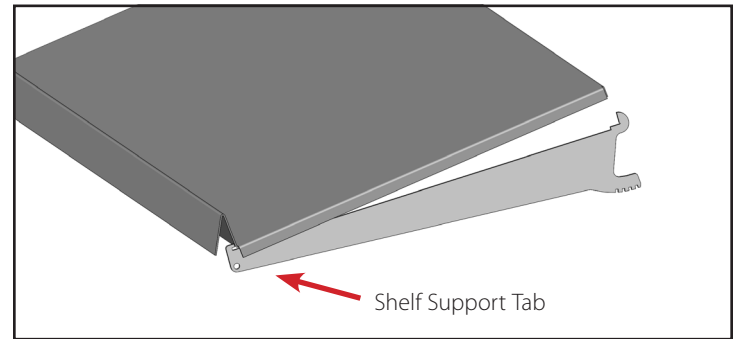

Fig. 4. Install the shelves
- b. Move the back of the shelf up and back until the front of the shelf clears the shelf support tab on the shelf bracket. See fig. 4.